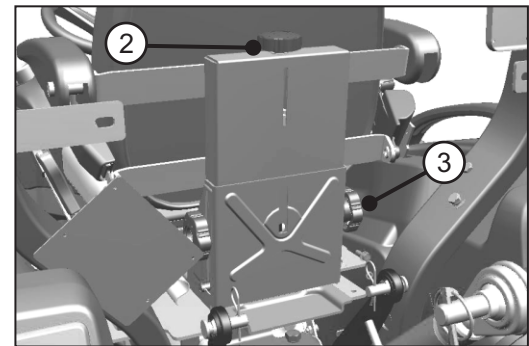

Fig 3.9b
- Use knob (2, fig. 3.9b) to adjust the suspension.
- Use knob (3, fig. 3.9b) to adjust the height of the seat vertically.